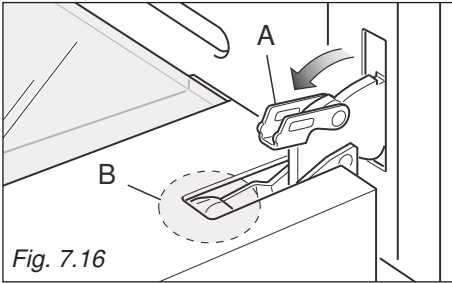

Fig. 7.16
- Fully open the lever "A" on the left and right hinges. (fig. 7.16).
- Gently close the door until left and right hinge levers "A" are hooked to part "B" of the door (figs. 7.16, 7.17).